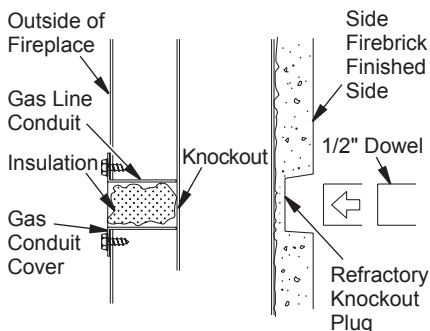

Figure 21 - Gas Line Knockout
1. Remove knockout indentation on refractory or firebrick wall located above refractory hearth floor. The knockout indentation must be firmly tapped with any solid object such as a 1/2" dowel until it is released. Remove fragmented portions of refractory (see Figure 21).